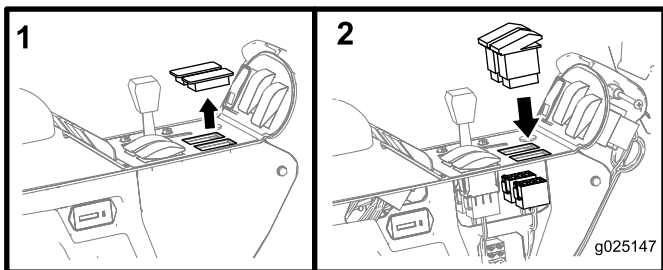

Figure 4
1. Remove the 2 plugs from the control panel and insert the switches into the spaces as shown in Figure 4.